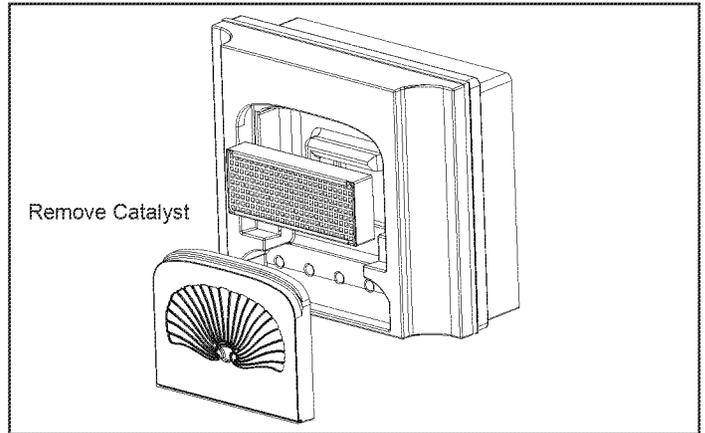

Figure 5.8 - Remove catalyst.
3. Remove the catalyst by gently pulling it up and straight out. (Figure 5.8) Place the catalyst where the catalyst's ceramic components will not be damaged.